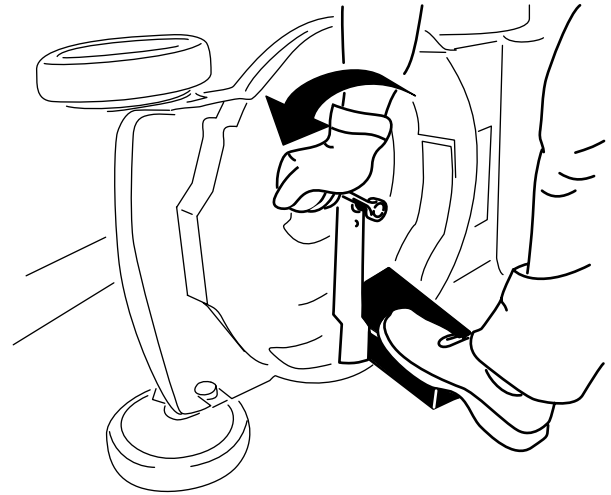

Figure 23
2. Use a block of wood to hold the blade steady (Figure 23).
3. Remove the blade bolt and blade; save the blade bolt (Figure 23).